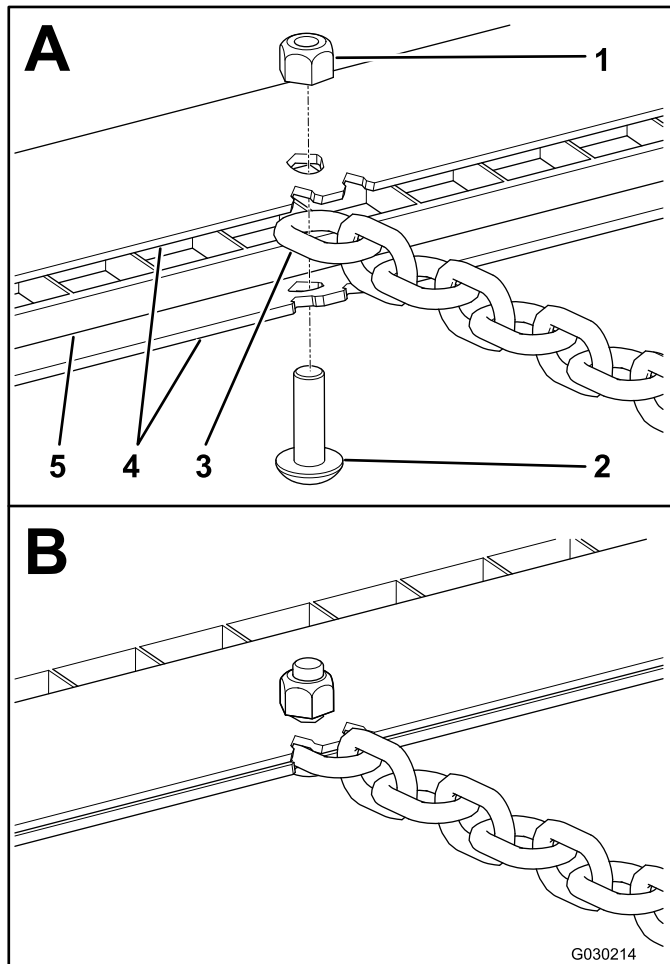

Figure 6
3. Install the chain between the brackets on the drag mat with a screw (5/16 x 1 inch) and a locknut (5/16 inch) as shown in Figure 6.
3. Install each chain between the brackets on the drag mat with a screw (5/16 x 1 inch) and a locknut (5/16 inch) as shown in Figure 6.